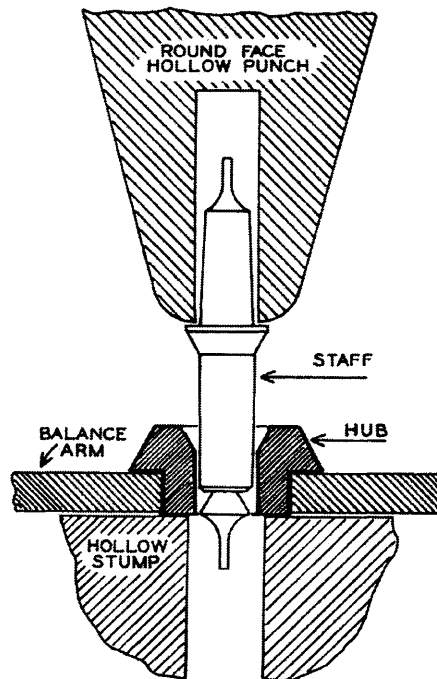

Fig. 15-18
3. Drive staff into position using a round face hollow punch which fits freely over the roller post, figure 15-18.